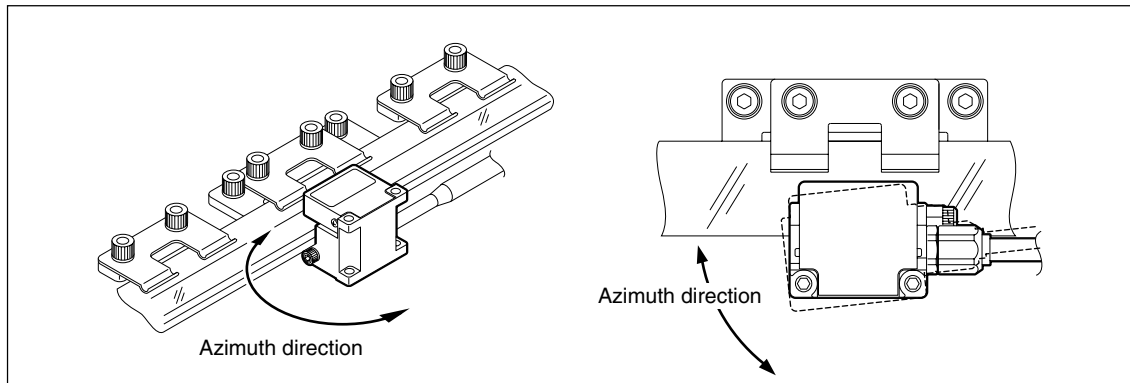

Fig. 3-13
- 2 Rotate the detector head as shown in Fig. 3-13, until you find the point where the amplitude of the Lissajous' figure is at a **maximum**.